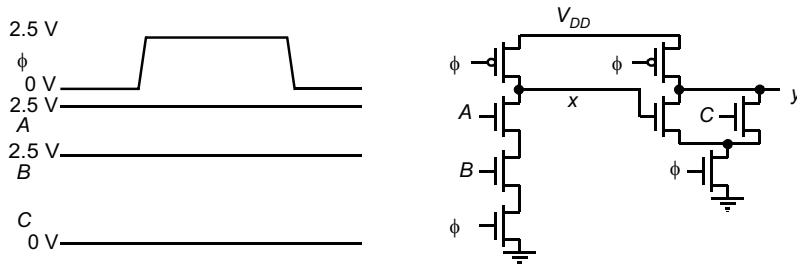

Figure 6.14 Cascaded dynamic gates.
- [E, None, 4.3] Consider the circuit of Figure 6.14.